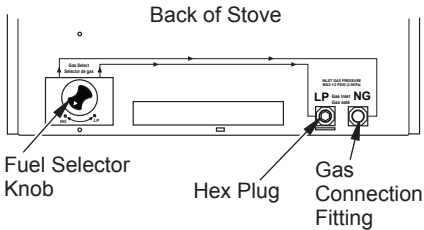

Figure 7 - Settings for Natural Gas Selection
2. For NATURAL GAS, press in knob using a flat screwdriver with a blade with thickness of a quarter and turn knob clockwise  until the knob locks into the NG position (see Figure 7). Fuel selection device must be locked in the NG position. Do not operate heater between locked positions!
4. Remove hex plug (with wrench provided) from natural gas inlet of regulator and discard (see Figure 7). Install gas line into NG inlet of regulator. Use thread sealant to assure there are no leaks.